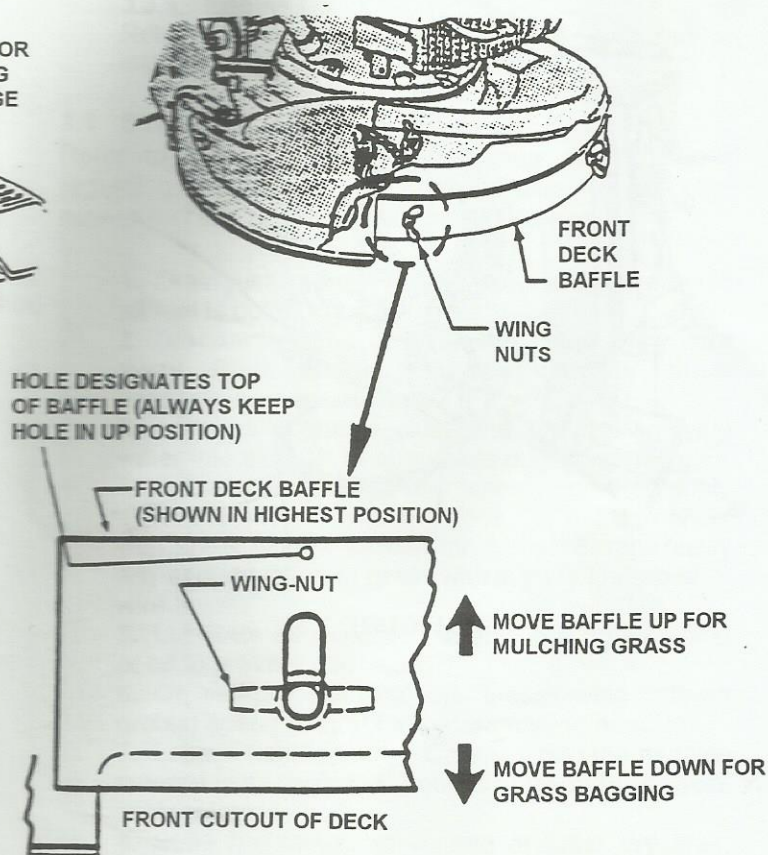

FIGURE 2.12
2. Loosen wing nuts that secure front deck baffle. See Figure 2.12.
3. Lower the adjustable baffle to the lowest position when using a grass bag. Raise the baffle to its highest position when mulching grass. Take care to keep the baffle's lower edge parallel to the bottom of the deck. See Figure 2.12.